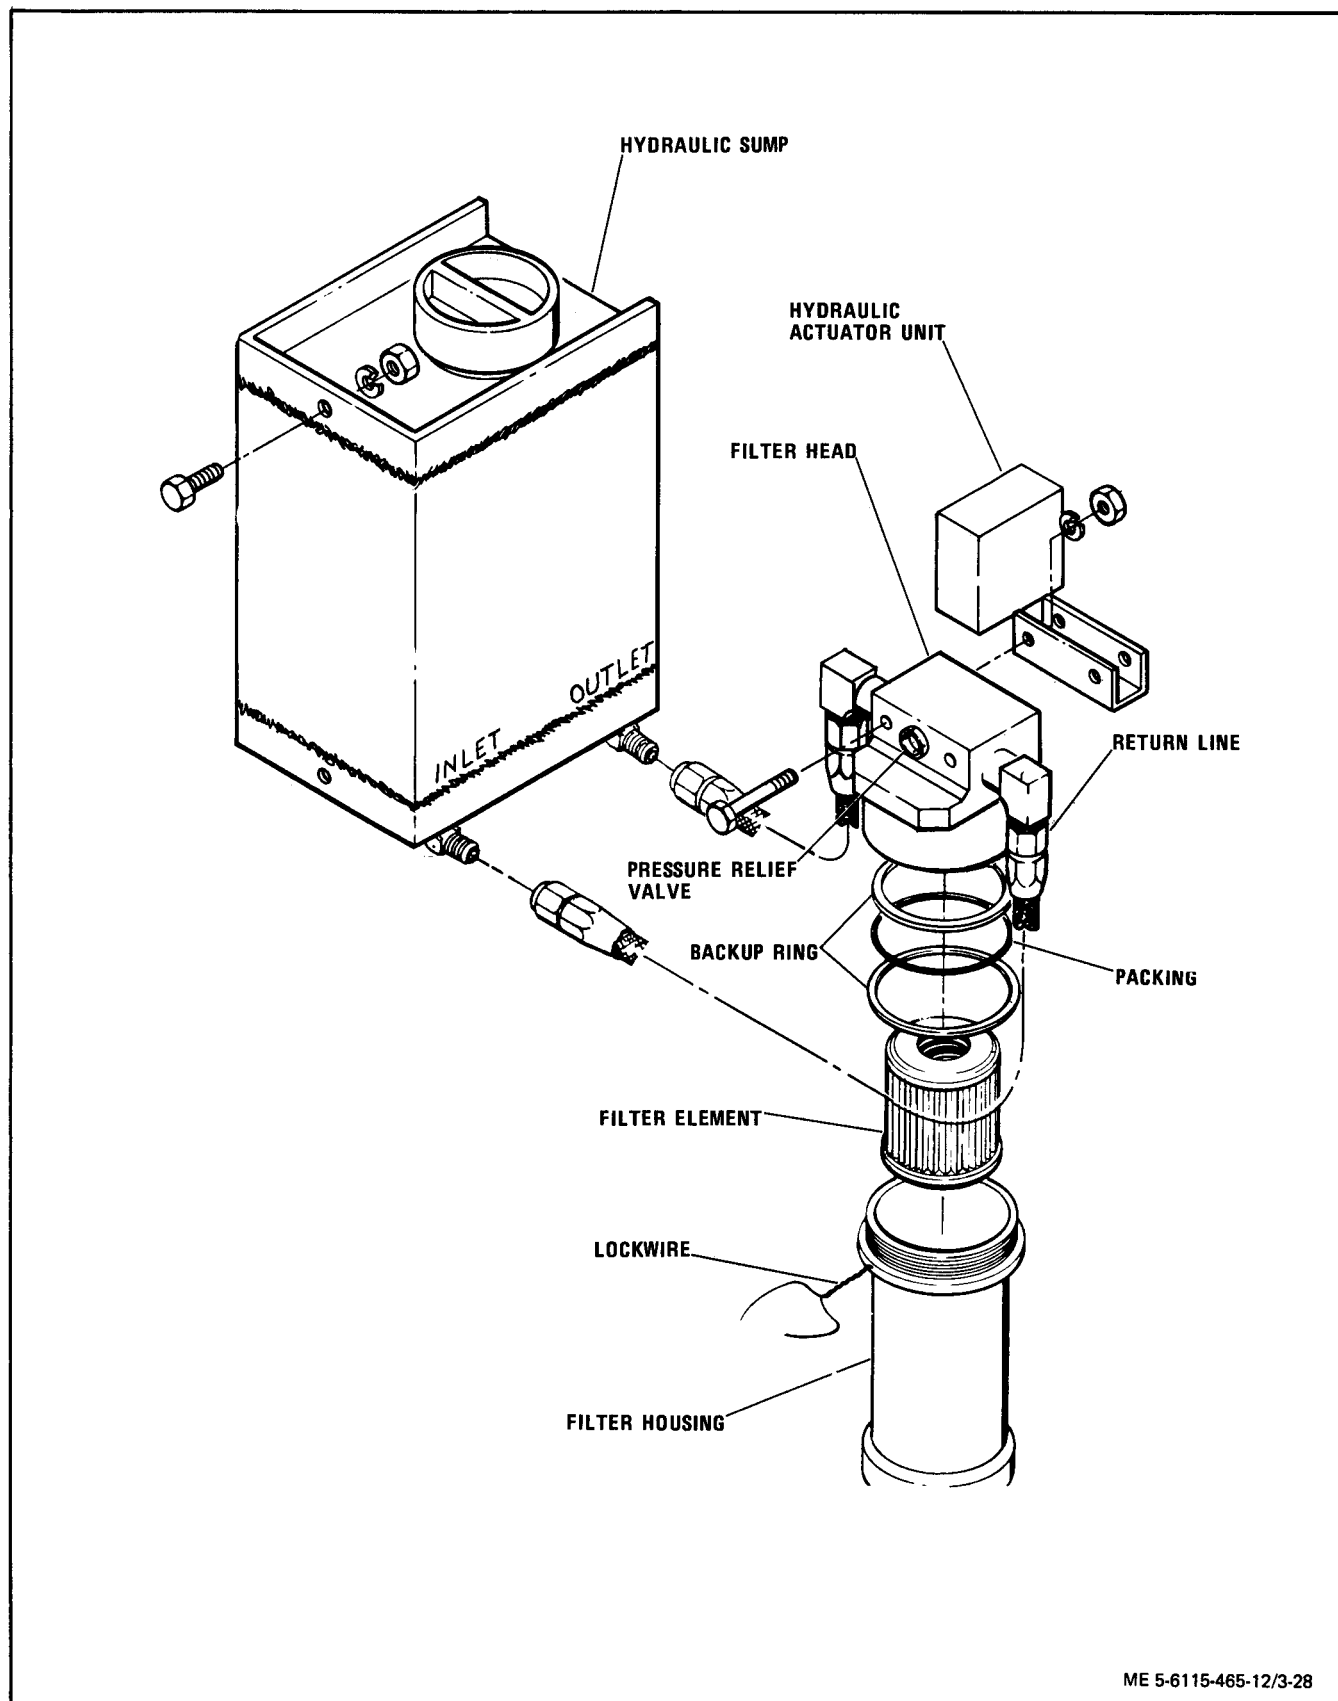

Figure 3-28. Hydraulic Sump and Filter Service
a. Disconnect return line from hydraulic actuator unit and allow the oil to drain into a suitable container (figure 3-28).